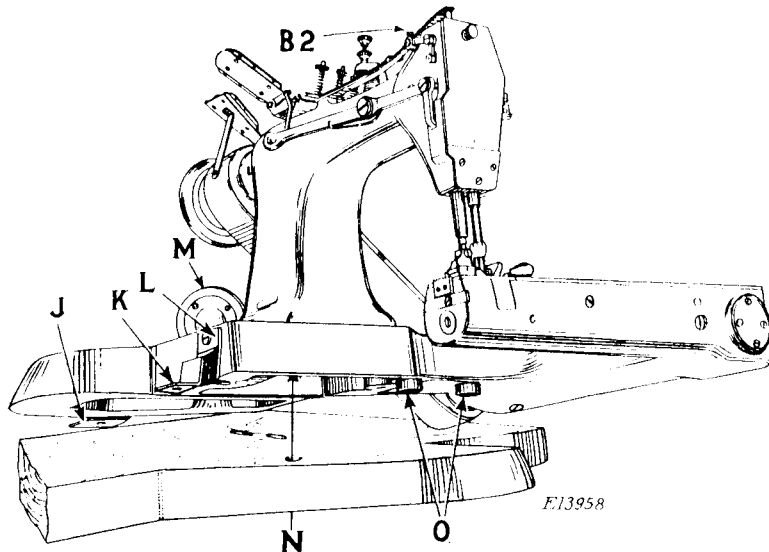
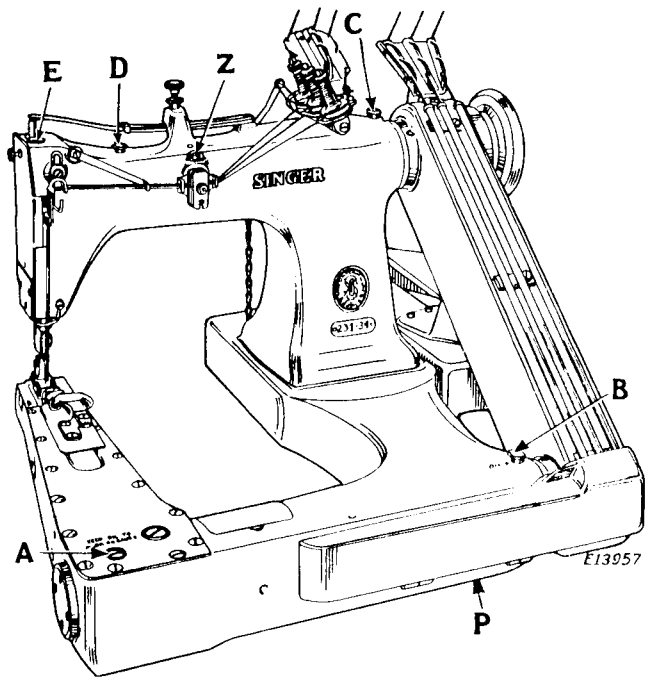
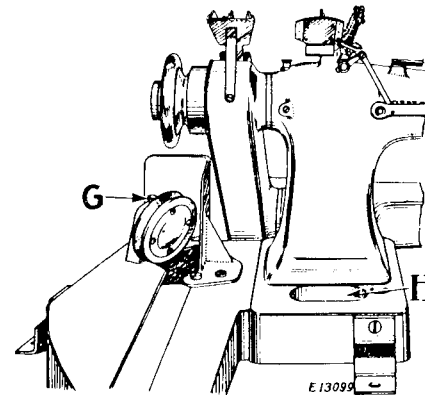
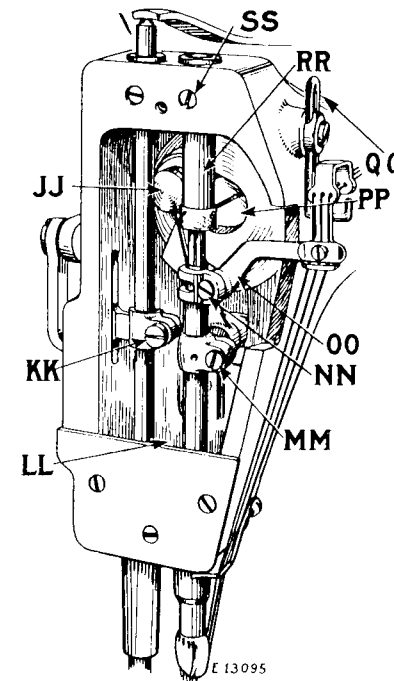

Fig. 2
Fig. 3.
Fig. 5.
Fig. 17
Unpack and thoroughly clean the machine. Attach the counterweight to the machine bed as shown in Fig. 5. Insert the two rubber cushions (O, Fig.2) into the holes in the base of the machine. Place the machine in position with the edge of the machine base in line with the edge of the table as shown below, and see that the hole (N) for the presser bar lifter chain is in line with the hole in the table plank.
The two vibration dampeners (J and K, Fig. 2) are placed at the rear of the machine base and at the right of the counterweight as shown in Fig. 2. Attach the straight straps (L) to the machine base and counterweight, then locate and drill holes in the table and fasten the angle straps (K) of the dampeners to the table with 1/4 X 2 1/4 inch bolts.
When the machine is operated on a Singer Electric Transmitter Power Table or a Low Shaft Power Table, the idler pulley (M, Fig. 2) is attached to the machine counterweight as shown in Fig. 5.
1. After the machine has been set up so that its cylinder arm cover is level, lift out the gauge (A, Fig. 3) and fill the arm reservoir to the level of the mark on the gauge. Run the machine a few minutes, then wipe off the gauge and recheck the oil level. THIS RESERVOIR SHOULD BE FILLED ABOUT TWICE A WEEK OR OFTEN ENOUGH TO KEEP THE OIL LEVEL UP TO THE MARK ON THE GAUGE.
3. Place about 5 drops of oil in each of the three cups (B, C and D, Fig. 3) which lubricate the ball bearings, and in the cup (G, Fig. 5) on the idler pulley underneath the balance wheel. DO THIS ABOUT ONCE A WEEK.
4. Place a drop of oil once a day in the oil hole (Z, Fig. 3) directly above the nipper.
NOTICE: When the machine is first set up, or after it has stood idle for some time, put a few drops of oil in the top of the needle bar guide pin (E, Fig. 3) before starting the machine.
OIL DRAIN: Surplus oil from the bearings drains into the wells at the rear of the base (H, Fig. 5) and in the head of the arm (LL, Fig. 17). These wells may be kept empty by soaking out the oil with waste or similar material.
Oil which accumulates in the front of the arm under the rotary shaft should be drained out occasionally by removing the screw plug at (P, Fig. 3) in the bottom of the bed, to prevent oil from getting on the looper thread take-up.
Note: If an excessive amount of oil should flow into the reservoir (LL, Fig. 17), see instructions for replacing the wicking in the arm shaft crank on page 23.
The needle bar may be raised or lowered after loosening the clamping screw (MM, Fig. 17).
The needle thread take-up (OO, Fig. 17) is usually set so that the top of its clamp is about 1/16 inch below the top of the needle bar.
The auxiliary thread take-up (QQ, Fig. 17) at the front of the machine should be set high enough so that it takes up the slack of the needle threads after the loopers have shed the needle loops and as the needle bar finishes its downward stroke and the stitch is set.
(See Fig. 17)
Remove face plate, presser foot and needles. Remove the balance wheel, belt guard cover and belt, as instructed on page 22. Remove the upper belt pulley. Loosen the presser bar lifter bracket clamp screw (KK, Fig. 17) and withdraw the presser bar from the top. Loosen clamp screws (MM and NN), remove the thread take-up and allow the needle bar to drop downward. Loosen set screw (SS) and tap the needle bar guide pin (RR) out through the top. Then tap the shaft out through the needle bar end, with the crank, oil retainer ring and ball bearing.
TO REMOVE ONLY THE ARM SHAFT CRANK, lower the needle bar and remove the presser bar as instructed above, take out the large cap screw (PP, Fig. 17) in the crank, and loosen the two large set screws in its perimeter which are accessible through the hole in the rear of the casting. The smaller screw which is also visible through the hole in the casting should not be molested. The crank may then be removed from the shaft.